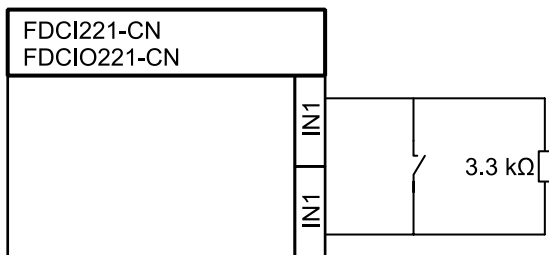
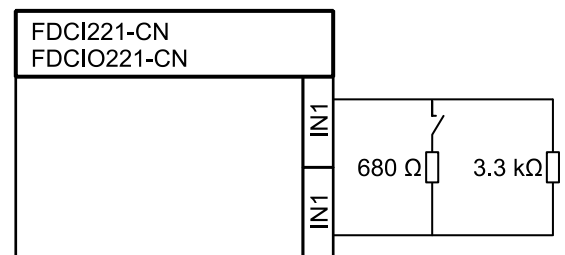

Fig. 7
Fig. 8
- Input monitored for open line: Fig. 7
- Input monitored for open line and short circuit: Fig. 8
3. Connect the resistors to the end of the input line (Fig. 7 and Fig. 8).